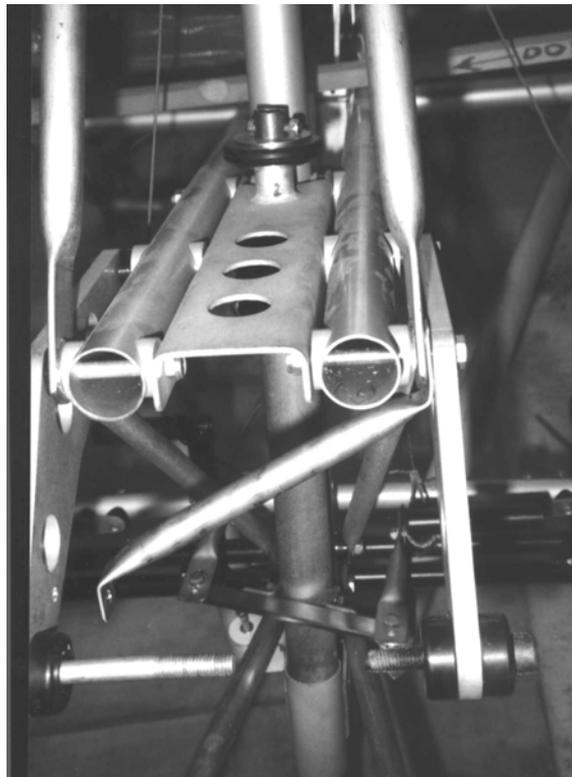

Figure 39; Rotax 912 engine mounts, front view.
- c) Loosely attach the upper and lower stainless-steel triangulation tubes to the central cabin tubes and the engine mounting brackets, including the alloy side pieces **298**, Figure 39 and Figure 33.
- g) Bend the steel diagonal brace **tu310** to fit between the engine mounting plates, Figure 39..